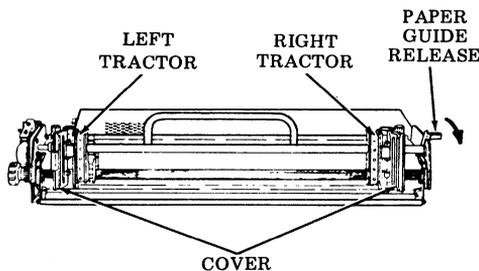

Fig. 55—Guides and Tractors
- (a) Release paper guides and open tractor covers (Fig. 55).